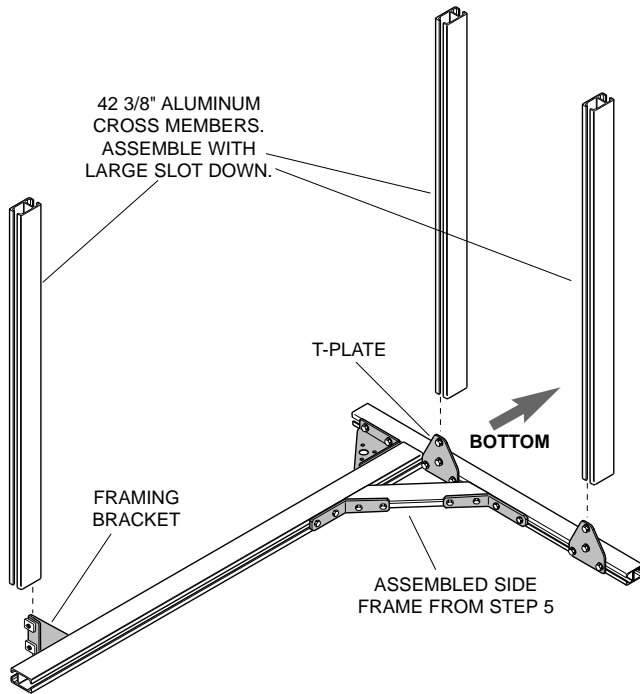

Figure 6.
- Lay one side frame assembly (Step 5) flat. Slide two 42 3/8" long cross members into T-Plates at bottom and third 42 3/8" cross member into Framing Bracket at top. Slide cross members tight against side frame members and securely tighten track nut bolts (Fig 6).